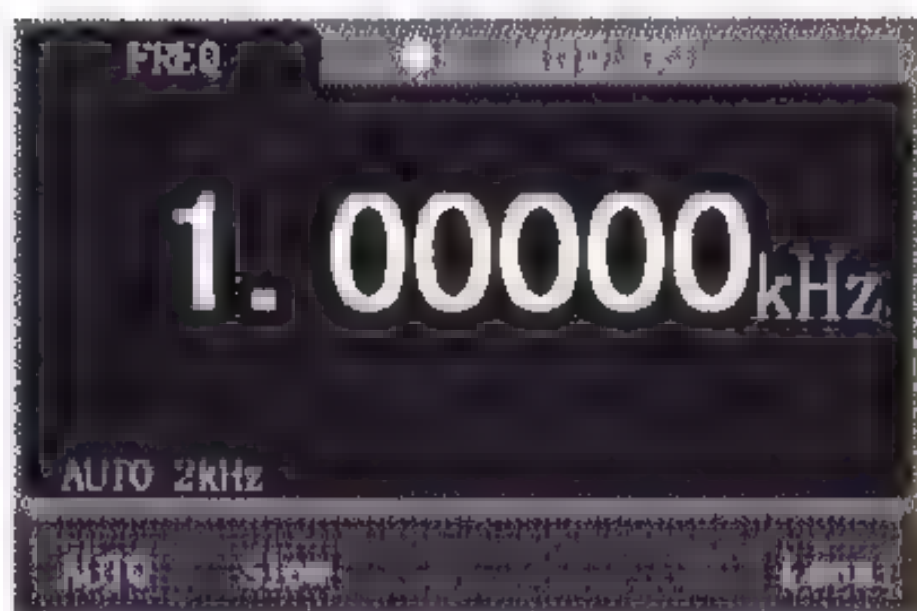

Figure 4-15 Measurement interface
1. Press FREQ to select the frequency measurement function by default. The measurement interface is shown in Figure 4-15.